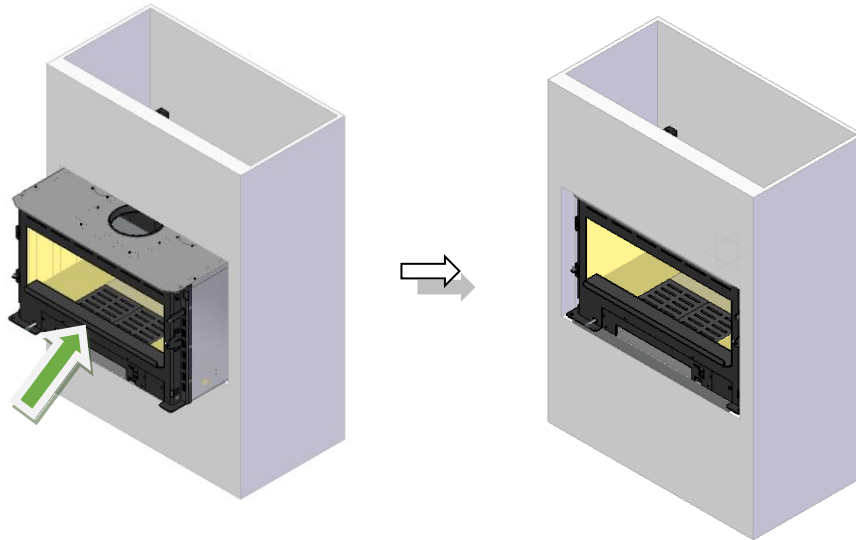

Figure 12 - Placing the equipment on site
10. You can then insert the equipment into place, as shown in Figure 12.